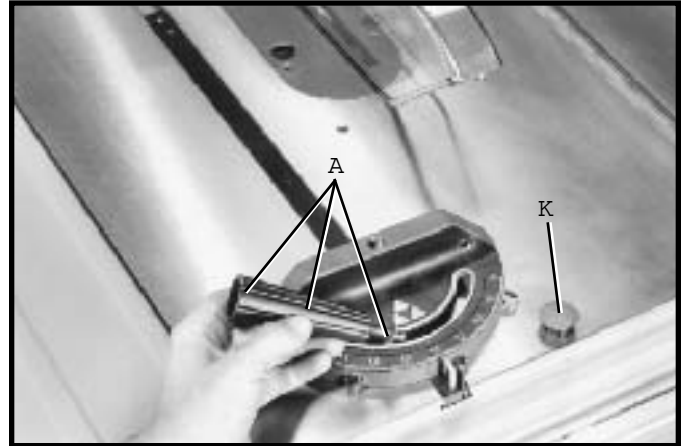

Fig. 84
1. Insert the miter gage bar into the miter gage slot and assemble the washer and lock handle (A) Fig. 84, to the miter gage bar as shown. Insert cap (K) into top of handle (A).